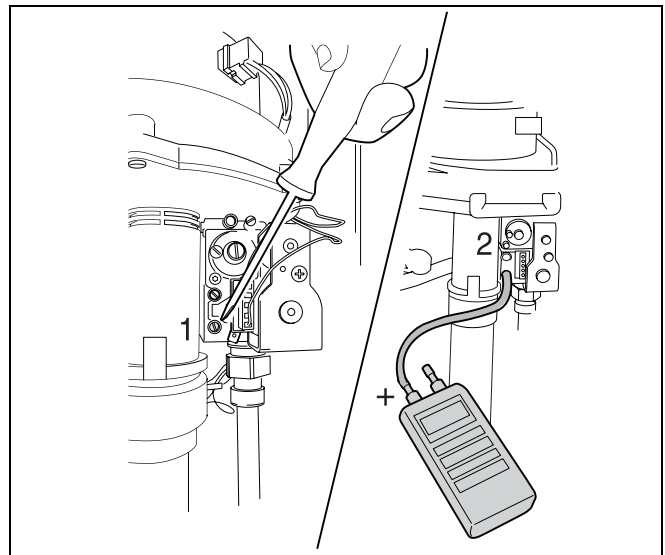

fig. 51 Measuring the gas-supply pressure
- Attach a tube from the pressure gauge to the gas test nipple (the lower one, see fig. 51, item 2).